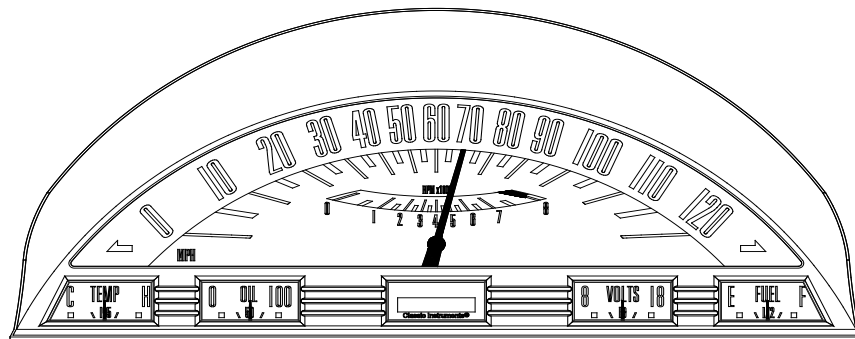

FIG. 8
- 5) If you are finished making setup changes, press and hold the pushbutton with the tachometer pointing to 8000 RPM to exit setup mode. **Fig. 8**